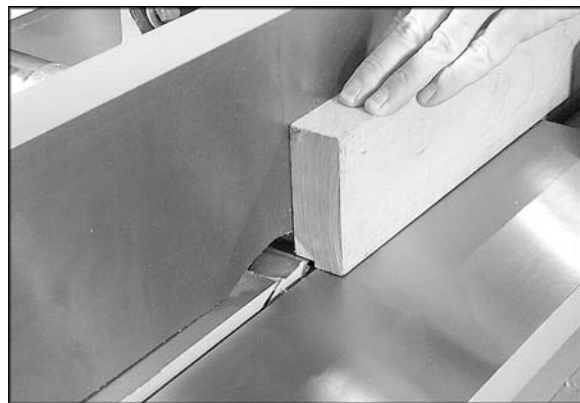

Figure 22
A rabbet is a groove cut along the edge of a board. See Figure 22. The width and thickness of the wood to be rabbeted depends upon the width and length of the rabbet. However, never rabbet a piece of wood less than 12" long.
7. Reconnect power. Lower infeed table 1/32" at a time and make successive cuts until the desired depth of rabbet has been obtained. See Figure 22. NOTE: It is easier and safer to take a series of shallow cuts.